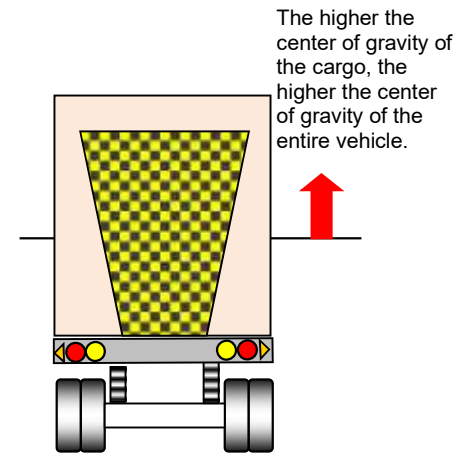

Figure 2 Top-heavy cargo
As the weight of the cargo increase, the restraint moment described in Section 4. (1) "Principle of container trailer rollover" will increase, making it more difficult to roll over. However, as shown in the example of Figure 2, a large, top-heavy machine tool is loaded, the rolling moment will increase due to the high center of gravity, resulting in higher change of rollover.